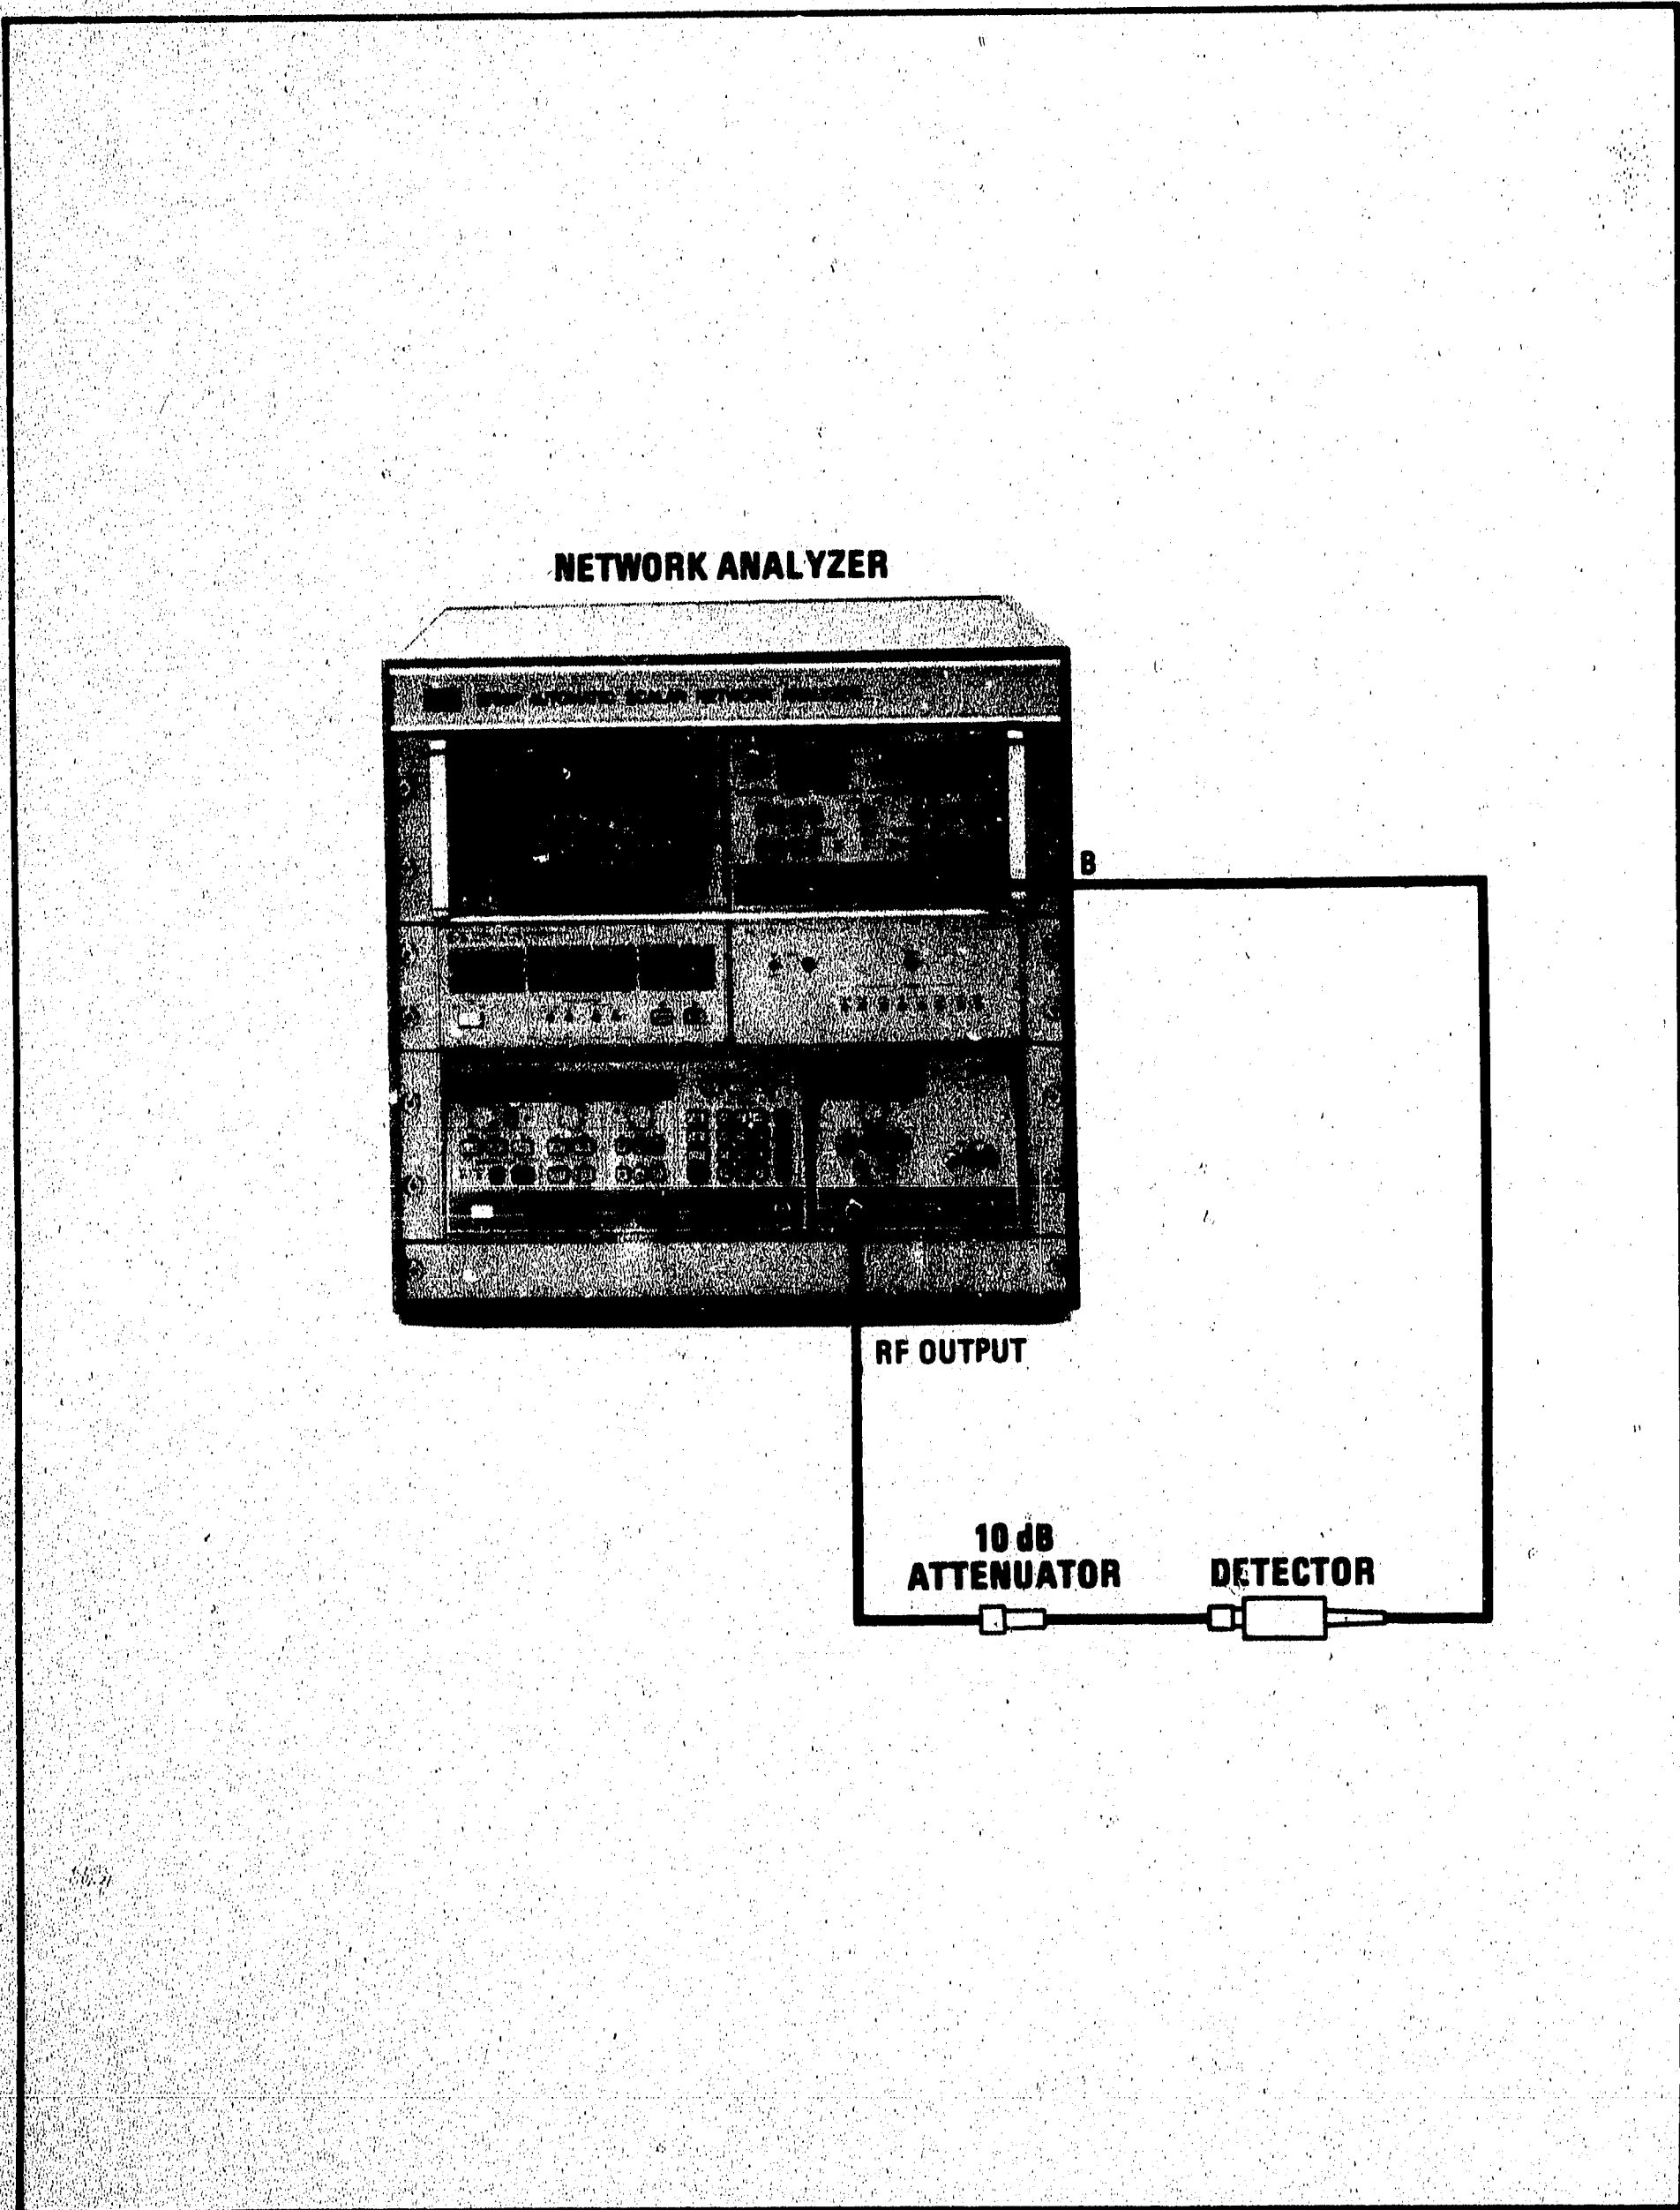

Figure 5-2. 8755C Adjustments Setup
1. Connect the equipment as shown in Figure 5-2.
11. With the equipment connected as shown in Figure 5-2 and the sweep oscillator set as described in step 10, set the Channel 1 and Channel 2 controls as follows: